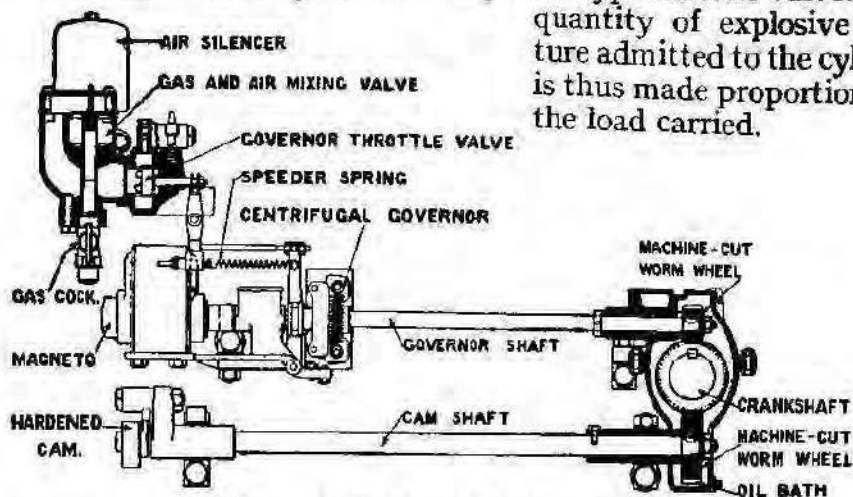
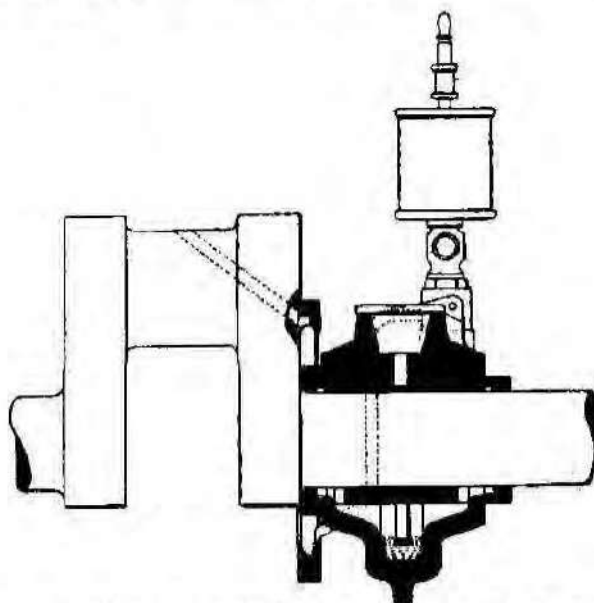
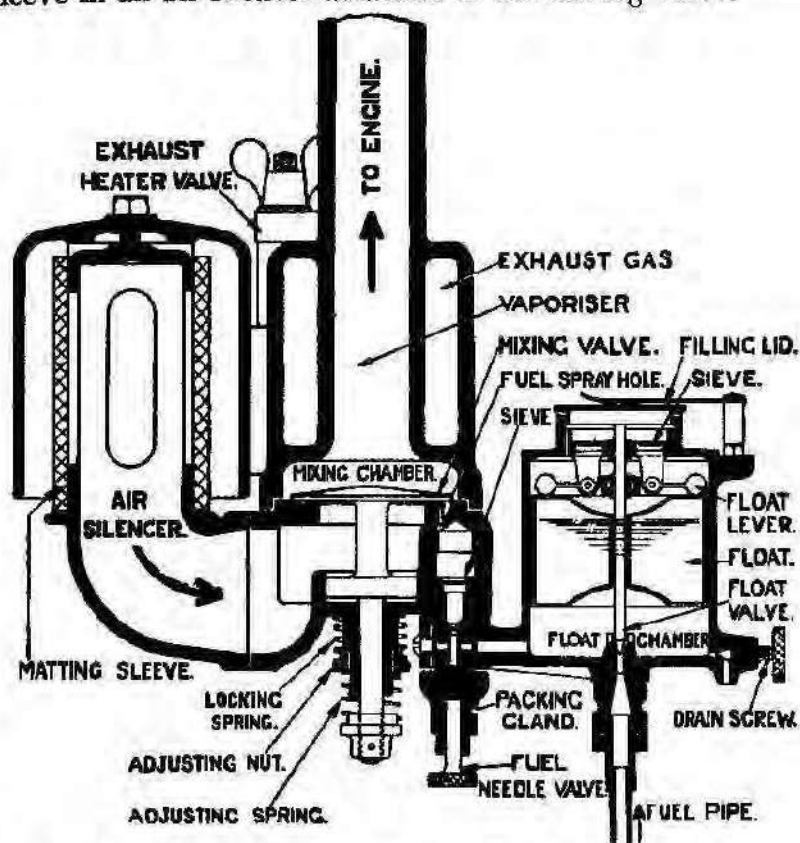

Fig. 5—Magneto and Governor Drive.
Fig. 4—Lubrication of Crank Shaft and Connecting Rod Bearings.
Fig. 6—Float Chamber, Mixing Valve and Air Silencer for all Liquid Fuels. Also Vaporiser for Paraffin and Alcohol Engines.
- 18—THROTTLE VALVE.** See Fig. 5. The engine is governed by varying the amount of fuel and air admitted through the admission valve by means of a piston type throttle valve. The quantity of explosive mixture admitted to the cylinder is thus made proportional to the load carried.
- 19—GOVERNOR.** See Fig. 5. When the speed of the engine increases, the increased centrifugal force causes the revolving weights to move outwards. These move the sleeve on the governor shaft and also the governor lever, which in turn moves the throttle valve towards the closed position. When the speed of the engine decreases the action of the governor is reversed, the weights moving inwards and the spring pulling the throttle valve towards the open position.
- 21—MIXING VALVE.** The fuel and air are mixed together in a mixing valve which automatically regulates their proportion to all loads. In *Town Gas Engines* (see Fig. 5), the fuel and air are mixed in the cold state, and when the engine stops the mixing valve automatically shuts off the gas supply and prevents it escaping into the engine room. In *Petrol and Benzol Engines* the mixing chamber (see Fig. 6) is warmed by being in contact with the exhaust pipe. In *Paraffin and Alcohol Engines* the mixing chamber is surrounded by a passage through which hot exhaust gases circulate, which enables the fuel to be vaporised when mixing with the air. When the engine is at work the suction of the engine lifts the automatic valve a varying amount according to the position of the throttle valve, and thus draws a varying amount of air and fuel through the mixing chamber and vaporiser to the engine according to the load on the engine. In *Suction Gas Engines* two hand-operated regulating valves are used on the mixing chamber, one for regulating the gas and one for the air. The governor throttle valve is also of a different type to that used for other fuels. See Fig. 11.
- 13—CONNECTING ROD.** *See Fig. 2.* Both the connecting rod and its cap are made of specially high-class steel stampings. Unusually large bearing surfaces are provided. The oil to the crank pin is led to an oil catcher ring (*see Fig. 4*) on the crank shaft, from whence it flows by centrifugal force through an oil hole drilled up through the crank web to the crank pin. The lubrication is therefore continuous, as the glass lubricators can be refilled without stopping the engine. (*See notes on Lubrication*).
- 14—CRANK SHAFT BEARINGS.** *See Fig. 4.* The crank shaft bearings are of extra large size, both as regards diameter and length. They are lubricated by means of revolving rings, the lower parts of which dip into lubricating oil contained in oil wells.
- 15—CAM SHAFT.** *See Fig. 5.* The cam shaft turns at half the speed of the crank shaft, so as to operate the valves once for every two revolutions of the engine. The cam shaft is driven by means of a worm wheel from a corresponding worm on the crank shaft.
- 16—GOVERNOR SHAFT.** *See Fig. 5.* The governor shaft turns at the same speed as the crank shaft and is also driven by a worm wheel from a crank worm. This shaft carries a centrifugal governor and is also used to drive the magneto.
- 22—AIR SILENCER.** See Figs. 5 and 6. The suction of the air is silenced by passing all the air through a coconut matting sleeve in an air silencer attached to the mixing valve.
- 23—VAPORISER.** See Fig. 6. Paraffin and Alcohol Engines are provided with a vaporiser consisting of a passage for the exhaust gases passing round the fuel and air mixing chamber. The temperature of the vaporiser is regulated by a heater valve, which varies the amount of exhaust gases allowed to circulate through the vaporiser jacket. See paragraphs 34, 41 and 45.
For *Petrol and Benzol Engines*, open the needle valve (see Fig. 6) and the fuel cock on the fuel tank by unscrewing each of them three or four turns. Petrol will then flow into the float chamber until the level is nearly as high as the little spray hole under the head of the automatic valve.
- 26—LUBRICATING THE BEARINGS.**—The *Crank Shaft Bearings* (*see Fig. 4*) are lubricated by means of revolving rings, the lower part of which dip into lubricating oil contained in oil wells under the main bearings. The oil wells are filled from the top lids and when full the oil will be seen to begin to overflow through small holes drilled into the oil wells at the side of each bearing inside the engine bed. The *Connecting Rod Bearings* are lubricated from two sources. The small end (*see Fig. 2*) is lubricated automatically from the cylinder by means of oil passing down a little pipe in the top of the piston and dropping into cavity in the end of the connecting rod and then passing to the piston pin. The large end (*see Fig. 4*) is lubricated from an oil ring fixed on the side of the crank web. The oil is fed from a sight feed lubricator, from whence it drops into the ring on the crank web and then passes through a hole drilled in the crank to the crank pin. The *Cam Shaft and Governor Shaft Bearings* (*see Fig. 5*) are lubricated by feeding oil from a hand can occasionally to the oil wells on each bearing.
- 27—WORM WHEELS.** The worm wheel on the crank shaft, together with those on the cam shaft and governor shaft (*see Fig. 5*), are all lubricated by means of the worm on the cam shaft which runs in an oil bath.
- 29—LUBRICATORS.** Before starting any engine, see that all lubricators are filled and are in working order, that there is no dirt in the oil catcher ring described in paragraph 13 and shown in *Fig. 4*, that the oil wells under the main bearings are full of oil, and that the governor shaft and cam shaft bearings
- 40—SPEED.** The speed may be varied while the engine is running by adjusting the tension of the speeder spring (*see Fig. 5*) attached to the governor lever. This is done by means of the milled nut. *In no case must the listed speed be exceeded unless definitely recommended by us for special purposes.*
- 34—**HEATER VALVE.** *See Fig. 6.* With *Paraffin and Alcohol Engines* the exhaust heater valve handle must be moved over as far as it will go in the direction marked OPEN. This will enable the vaporiser portion of the induction pipe to become heated by the exhaust gases as soon as the engine is started.
45—TEMPERATURE OF VAPORISER. With *Paraffin and Alcohol Engines* the temperature of the vaporiser must be regulated by means of the heater valve (*see Fig. 6*) placed in the exhaust passage to divert more or less of the exhaust gases through the jacket surrounding the mixing valve. The heater valve can be fixed in any required position by means of the wing nut. About two-thirds open is the usual position, *but if the engine is only lightly loaded, it should be fully open.* With *Hopper Engines*, in which the cooling water is usually very hot, if not boiling, the exhaust throttle valve does not require to be kept open so far as with engines with tank circulation unless the engine is exposed to draughts or is working out in the open.
- 42—FLOODING OF FLOAT CHAMBER.** See Fig. 6. If this should happen it is a sign that some dirt has entered the chamber and got under the needle valve. This can usually be put right by simply turning the valve round backwards and forwards with one's fingers and at the same time pressing it on its seat. Flooding may also take place if the cover of the float chamber is not securely held on its seat by the flat spring provided on the top.